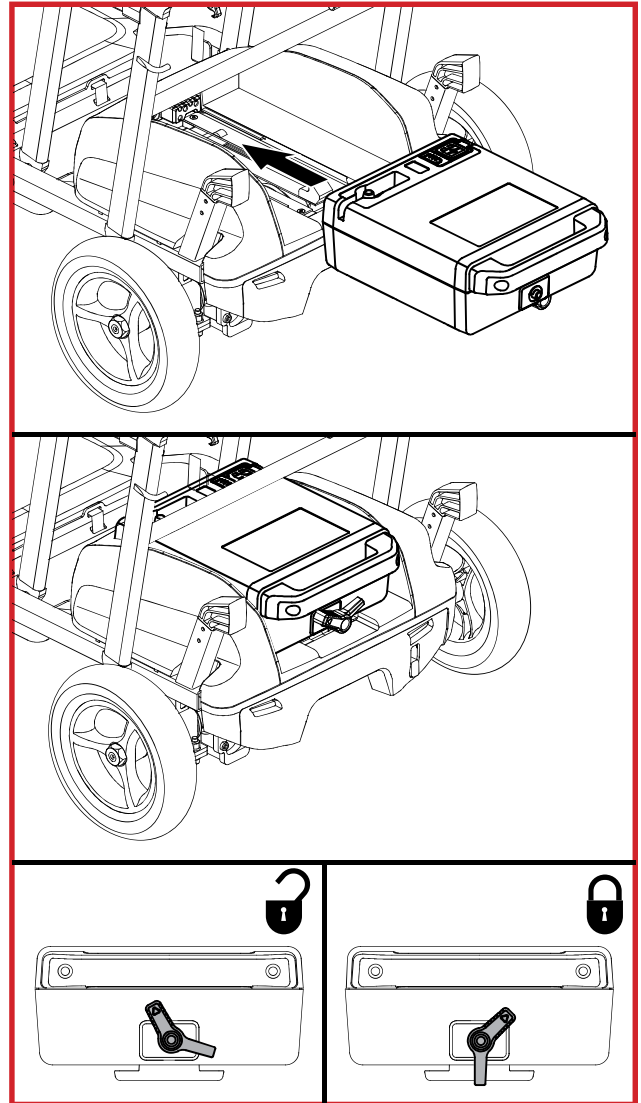

Figure 11 Battery Removal/Installation
To remove/install the battery pack, see figure 11:
2. Install the battery if necessary. See figure 11.